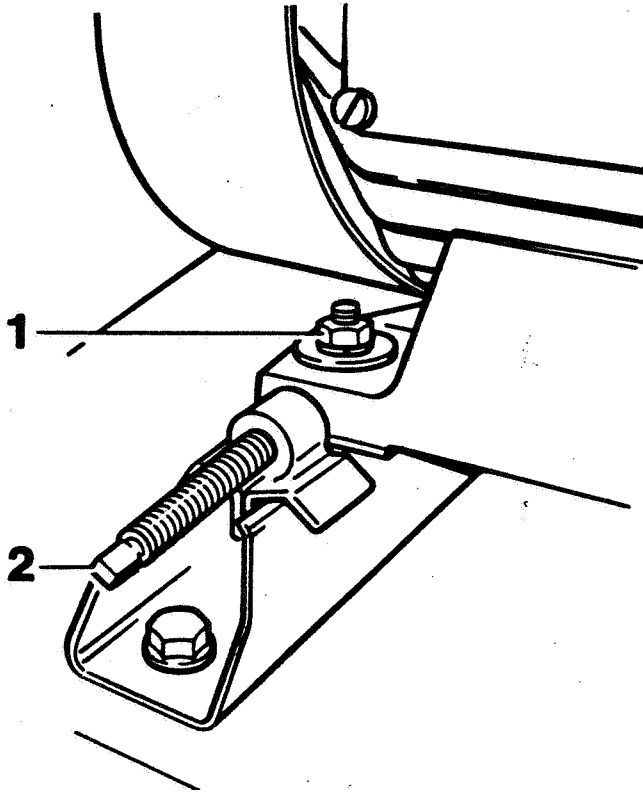

Fig. 12.1 Adjusting the v-belt tension
- Slightly loosen the motor mounting nuts (1, fig. 12.1).
- Adjust motor by turning the square adjustment screw (2) until the belt tension is correct.